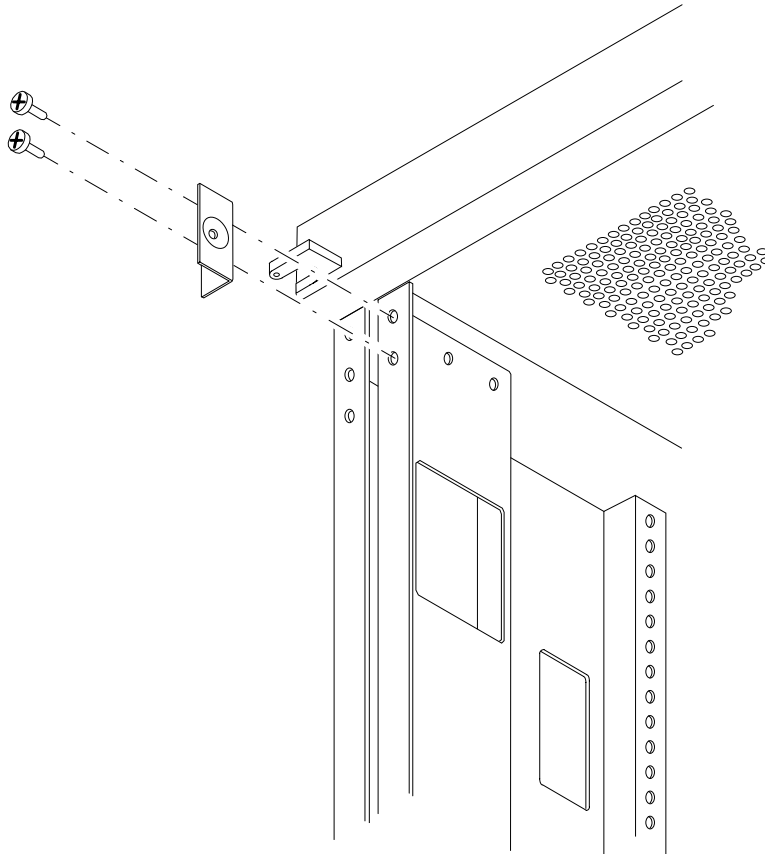

FIGURE 10 Power Shelf, Door, and Hardware Installation
- 8. Transfer the top trim mount bracket from the chassis frame to the corner bracket. Use the existing fasteners and tighten them fully (FIGURE 10). Repeat this step on the opposite side of the chassis.**